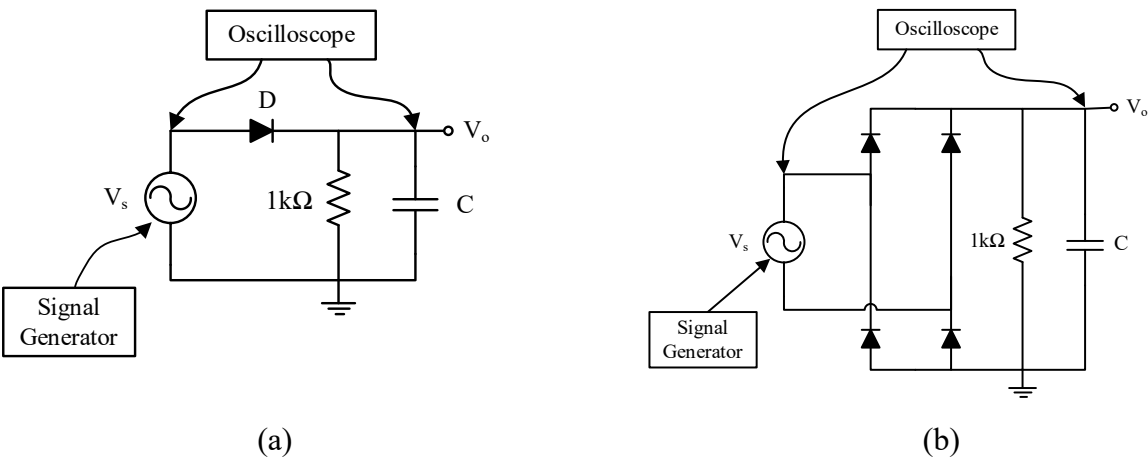

Fig. 2.4. Circuit diagram for (a) half-wave and (b) full-wave bridge rectifier circuit.
1. Connect the circuit according to Fig. 2.4 (a) without capacitor.
5. Next, connect the circuit according to Fig. 2.4 (b) without capacitor.